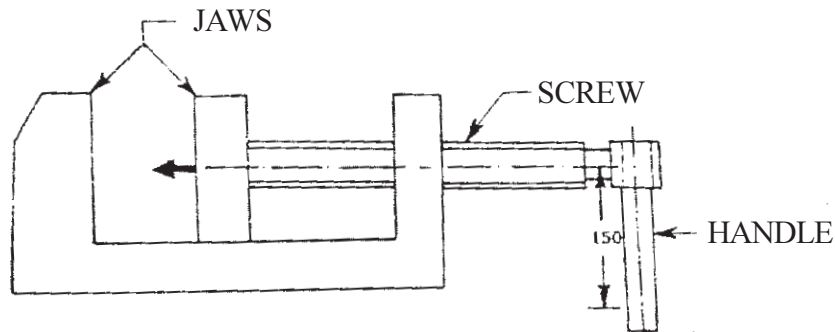

Figure 2 Machine vice
b) A machine vice as shown in Figure 2 has single start, square threads with 22 mm nominal diameter and 5mm pitch. The outer and inner diameters of the friction collar are 55 and 45 mm respectively. The coefficient of friction for thread and collar are 0.15 and 0.17 respectively. The machinist can comfortably exert a force of 125 N on the handle at a mean radius of 150 mm. Assuming uniform wear for the collar, calculate: [10]